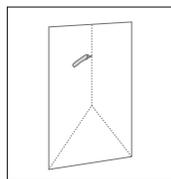

fig. 3
- When the water-resistive barrier covers the window opening, make a modified I-cut in the barrier. **(fig. 3)**